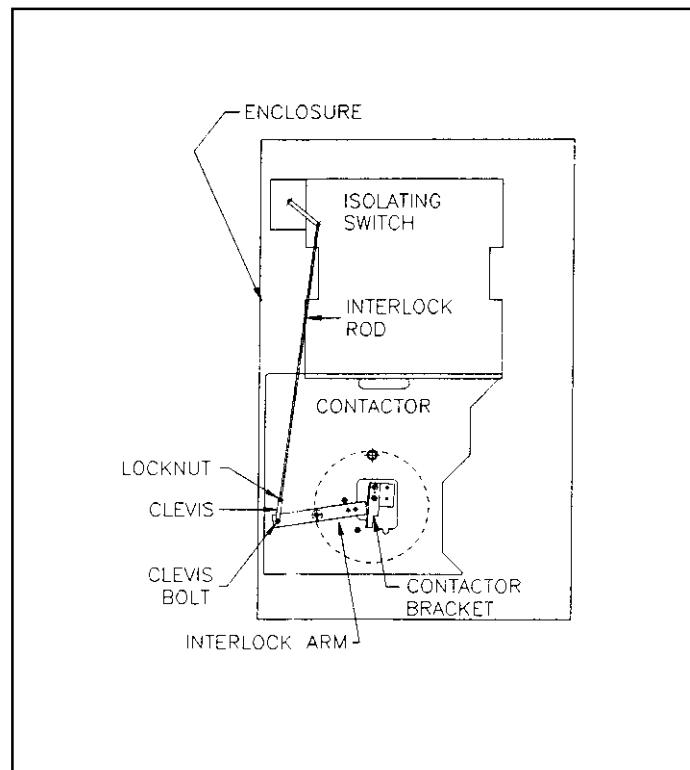
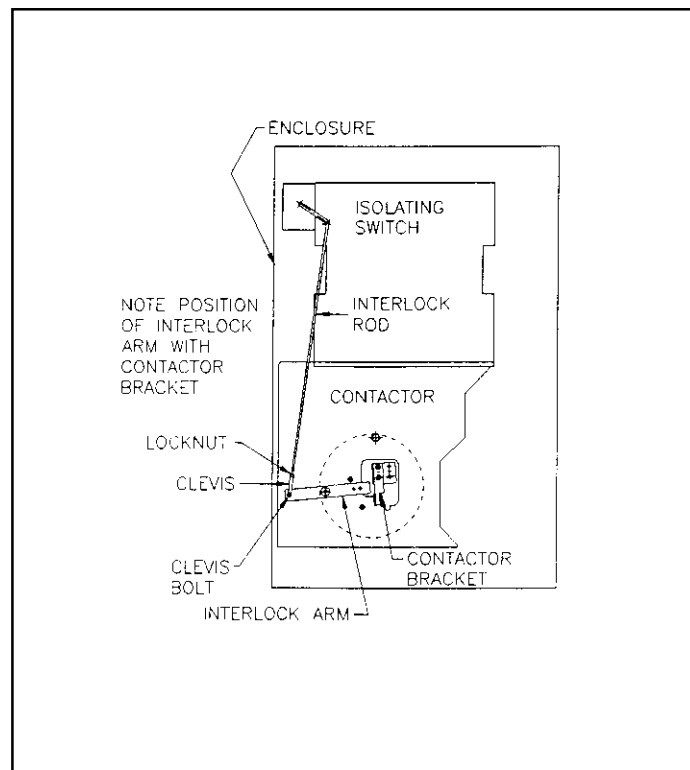

Fig. 8 Switch and Contactor Interlocked Closed
Fig. 9 Contactor Open, Interlock Neutral
There is also a mechanical interlock that is designed to prevent the isolating switch from closing with the contactor already closed, and to prevent the contactor from closing while the isolating switch is being opened. This latter state (the transition phase) is shown in Figure 8. With the isolating switch fully open or fully closed the contactor may be opened or closed. See Figure 9. If the clevis is not connected to the interlock arm, the contactor cannot be closed electrically. This is a positive interlock, it cannot be bypassed without disassembly of the interlocking parts. **DO NOT DISTURB THE FACTORY ADJUSTMENTS OF THESE INTERLOCKS!**
6. Loosen the hex-head bolt attaching the clevis at the end of the isolating switch interlock rod to the contactor mechanical interlock sufficiently far to free the clevis and rod. See Figures 8 and 9.